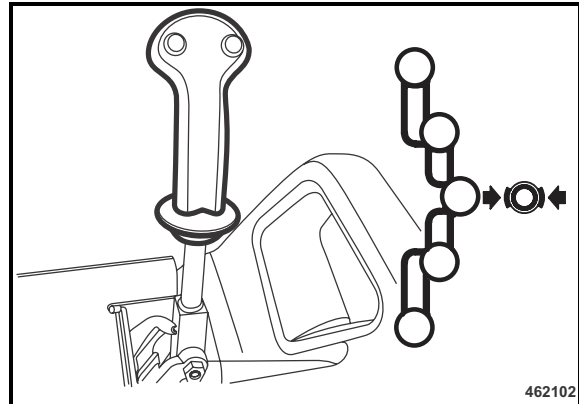

Fig. 67
- Shift the travel lever (Fig. 67) slowly back to neutral position and lock it in parking brake position.